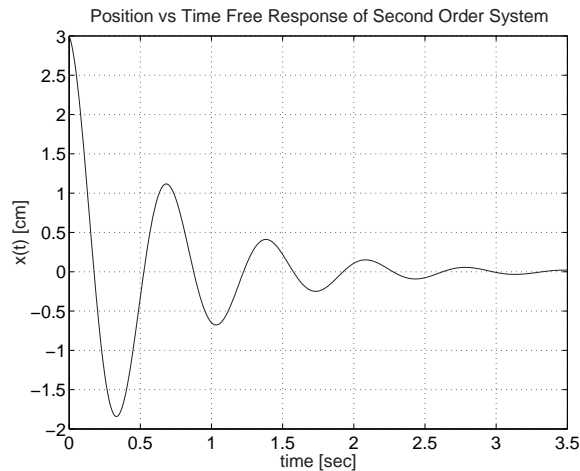

Figure 1: Second order system response
- Suppose that we've measured the system response shown in Figure 1.